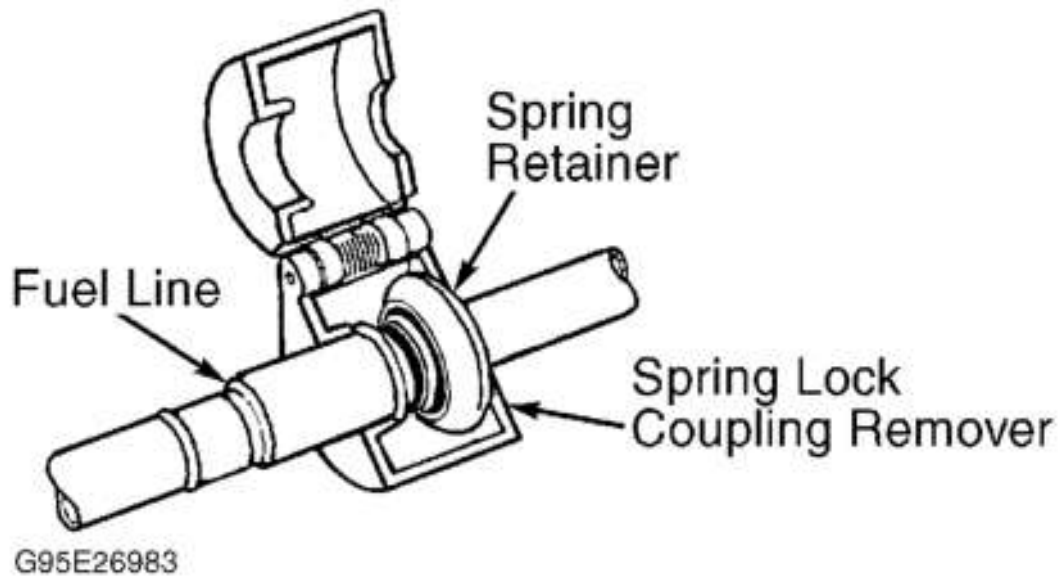

Fig. 2: Disconnecting Fuel Lines
4. Remove brackets for air injection pump, power steering pump, generator and A/C compressor. Disconnect oil pressure sending unit wire. Release fuel pressure. See **FUEL PRESSURE RELEASE**. Using Spring Lock Coupling Remover (T81P-19623-G1 for 3/8" line or T81P-19623-G2 for 1/2" line), disconnect fuel supply and return lines. See **Fig. 2**.
4. Using Spring Lock Coupling Remover (T81P-19623-G1 for 3/8" line or T81P-19623-G2 for 1/2" line), disconnect fuel supply and return lines. See **Fig. 2**. Disconnect air injection lines. Remove distributor cap, rotor and spark plug wires. Remove 3 top engine-to-transmission bolts. Raise and support vehicle.
3. Using Spring Lock Coupling Remover (T81P-19623-G1 for 3/8" line or T81P-19623-G2 for 1/2" line), disconnect fuel supply and return lines. See **Fig. 2**. Remove upper radiator hose, by-pass hose and heater outlet hose. Remove lower intake manifold bolts evenly. Remove lower intake manifold and gaskets.